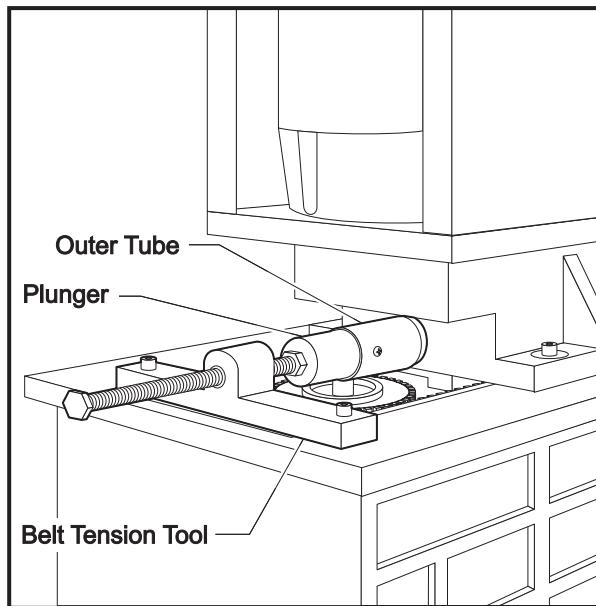

Figure 3-17. Belt tension tool.
5. Set the belt tension tool in place as shown in Figure 3-17. Mount it to the head casting by inserting the two SHCS into the two front TRP mounting holes. Tighten the SHCS finger tight.